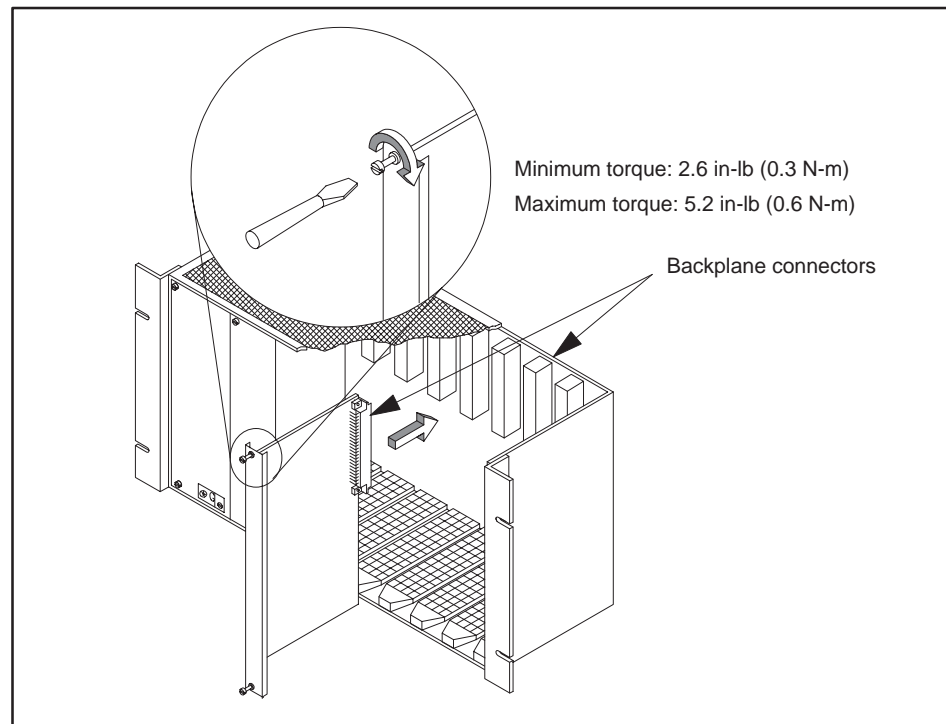

Figure 2-4 Inserting the Module into the Base
3. Use a flat-head screwdriver to tighten the screws at the top and bottom of the bezel, as shown in Figure 2-4. Note the minimum torque required in order for the bezel screws to provide electromagnetic shielding.